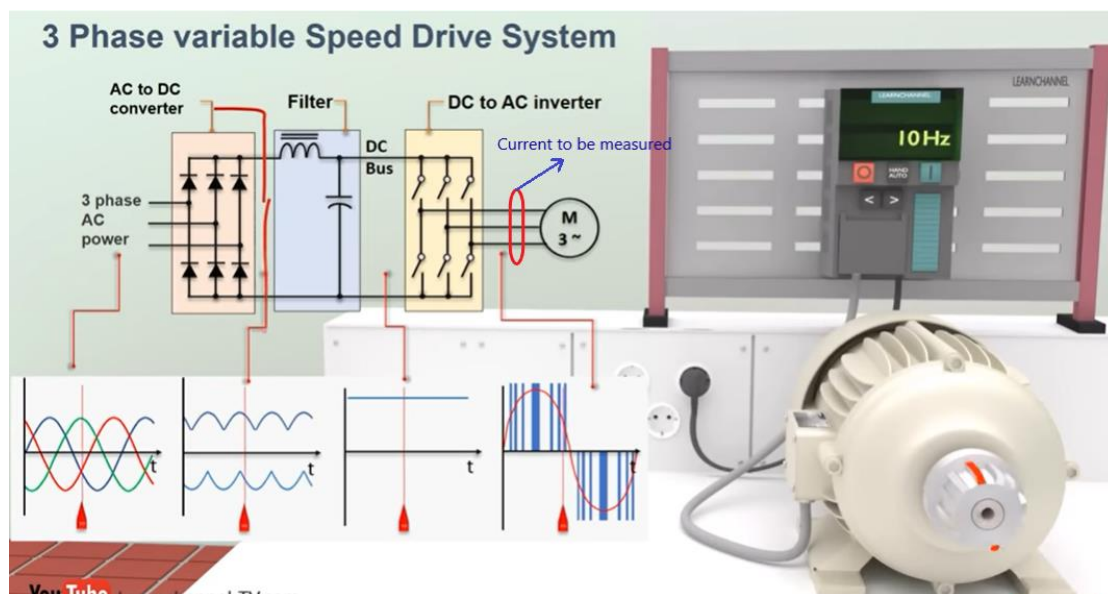

Fig. 9
* One major interest in very low frequency applications is the output current measurement from VFD (Variable Frequency Drive) to AC motors. The operating frequency for such AC current ranges from 10Hz ~ 120Hz normally. The magnitude of such current ranges from several amperes to several hundred amperes. Picture below (Fig. 9) shows the block diagram of an operating VFD with indication of where the current of interest (to be measured).